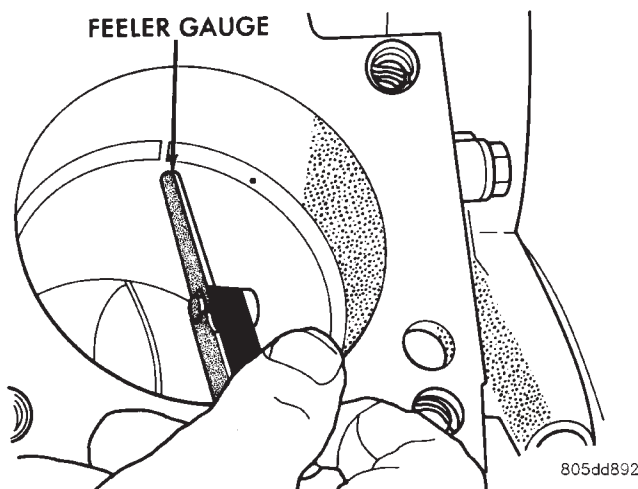

Fig. 7 Gap Measurement
(4) Place ring in the cylinder bore and push down with inverted piston to position near lower end of the ring travel. Measure ring gap with a feeler gauge fitting snugly between ring ends (Fig. 7).